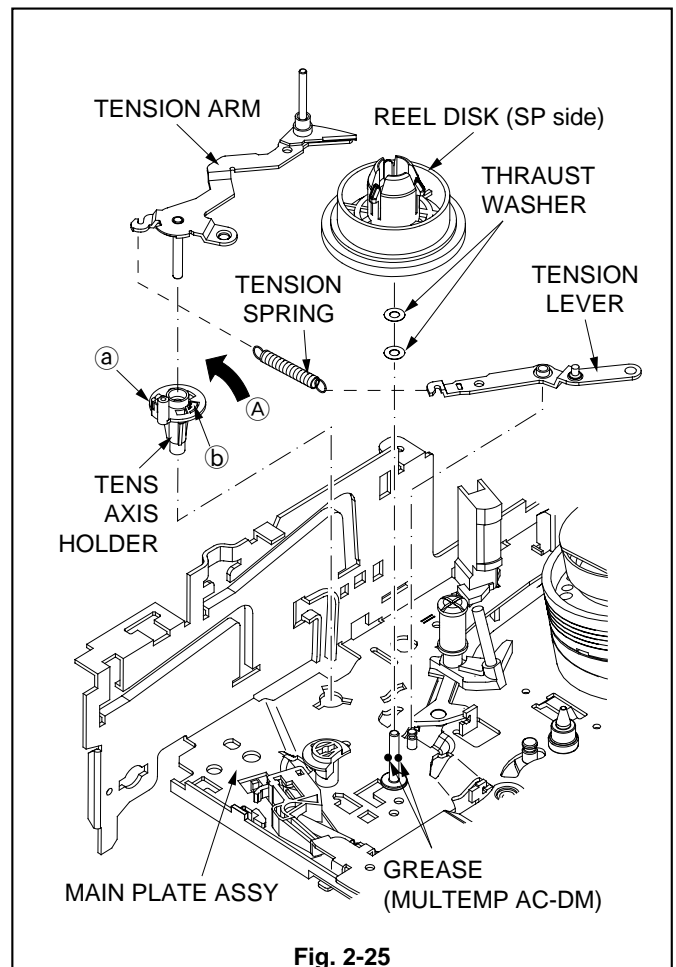

Fig. 2-25
1. Remove the TENSION SPRING shown in the Fig. 2-25.
2. Release the catch (a) of the TENS AXIS HOLDER shown in the Fig. 2-25 to remove the TENSION ARM.
3. Remove the TENSION LEVER shown in the Fig. 2-25.
4. Release the catch (b) of the TENS AXIS HOLDER shown in the Fig. 2-25. Move the TENS AXIS HOLDER in the direction shown by the arrow A to remove it.
1. Apply GREASE (MULTEMP AC-DM)[859D055O90] to the parts on the MAIN PLATE ASSY specified in the Fig. 2-25.